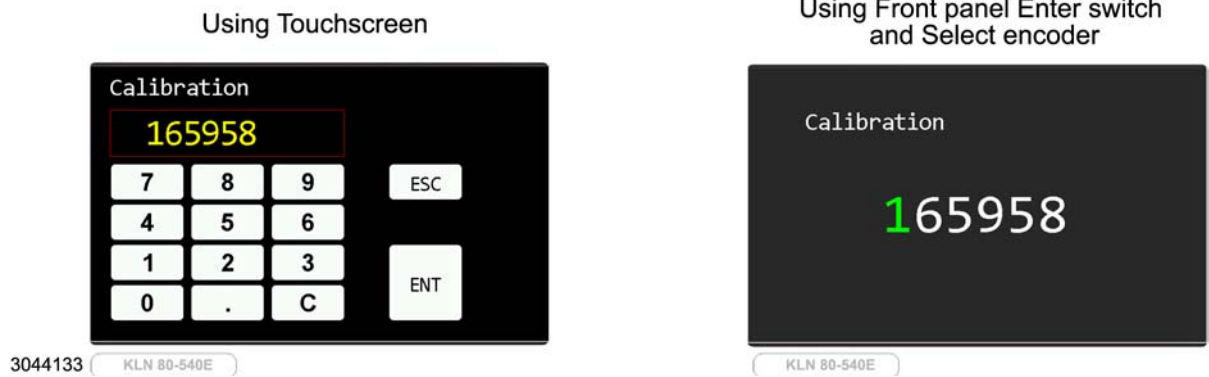

FIGURE 4-2. ENTERING PASSWORD TO ACCESS CALIBRATION
5. Access Calibration via Menu selection C-9 using password 165958 (see Figure 4-2). Enter the password using either the virtual keypad on the touchscreen, then touch ENT key, or use the SELECT encoder and ENTER switch as explained in PAR. 3.3.2.
6. Access Calibration via Menu selection C-9 using password 165958 (see Figure 4-2). Enter the password using either the virtual keypad on the touchscreen, then touch ENT key, or use the SELECT encoder and ENTER switch as explained in PAR. 3.3.2.